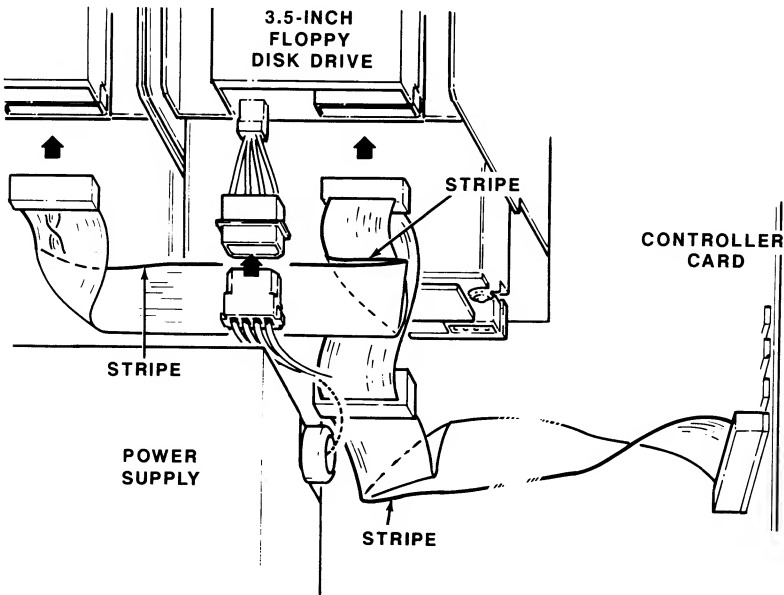

Figure 5-12. Connecting the 3.5-Inch Floppy Disk Drive
12. Connect the cable from the floppy disk to the disk controller card exactly as shown in Figure 5-12. Note the position of the stripe on the cable.
13. Refer again to Figure 5-12 and connect a cable from the power supply to the floppy disk drive.